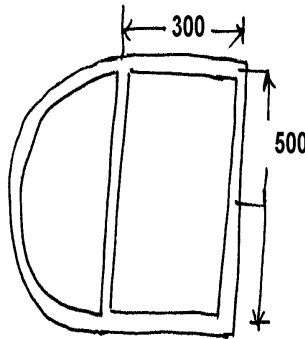

Figure 2:
5. Uniform thickness locate the shear centre for the multi compartment box beam. Shown in figure 2. [16]